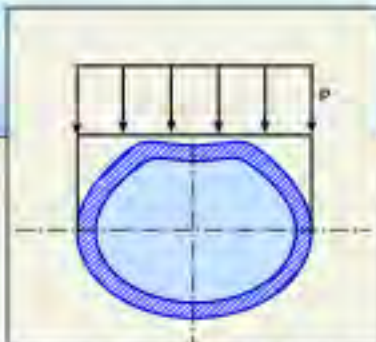

FIGURE 5. Ring buckling of pipe cross section
**Ring buckling critical load.** Ring buckling refers to the local wrinkling as illustrated in Figure 5. Ring buckling could result in leakage and hence should be avoided.